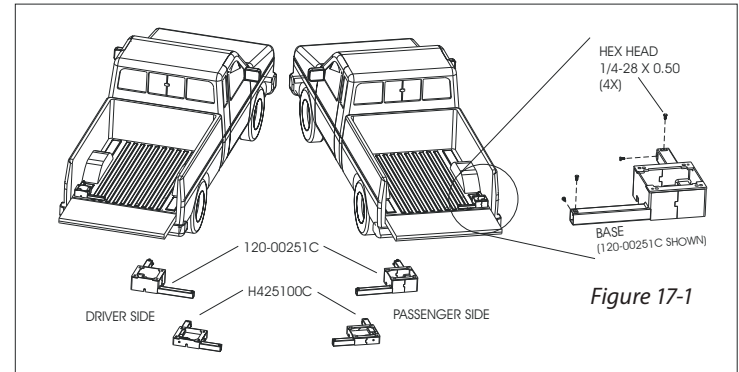

Figure 17-1
1. **Place base to the nearest corner** of the vehicle, near the tailgate or opening, that the lift is to be mounted. Fasten loose the four Hex Head Bolts, 1/4-28 x 0.50 to the legs of the Base. *[Figure 17-1]*